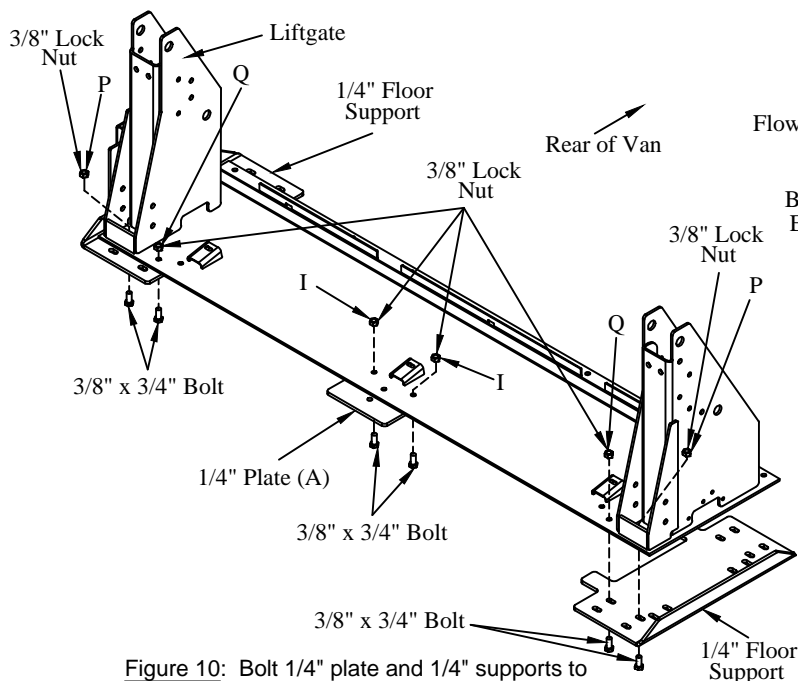

Figure 10: Bolt 1/4" plate and 1/4" supports to liftgate base plate. Parts removed for clarity.
5. **Fasten** the 1/4" plate to the base plate at the "I" locations using 3/8" x 3/4" bolts and lock nuts (Figure 10). The bolt heads must be on the bottom-side.
7. **Fasten** the 1/4" floor supports to the base plate at locations "P" and "Q" using 3/8" x 3/4" bolts and lock nuts (Figure 10). The bolt heads must be on the bottom-side.